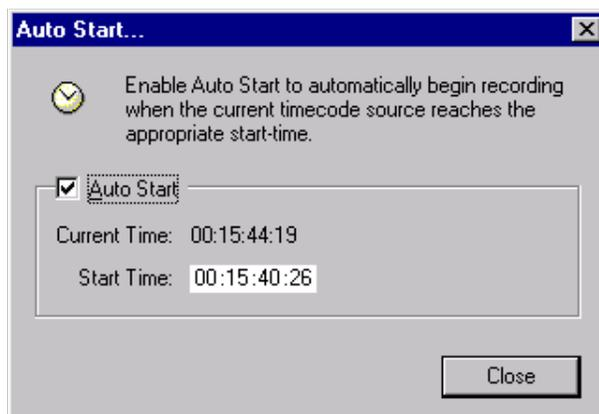

Figure 171. The Auto Start dialog box
3. In the Record Panel, click the **Auto Start** button, or choose **Config | AutoStart**. The Auto Start... dialog box appears (see Figure 171).